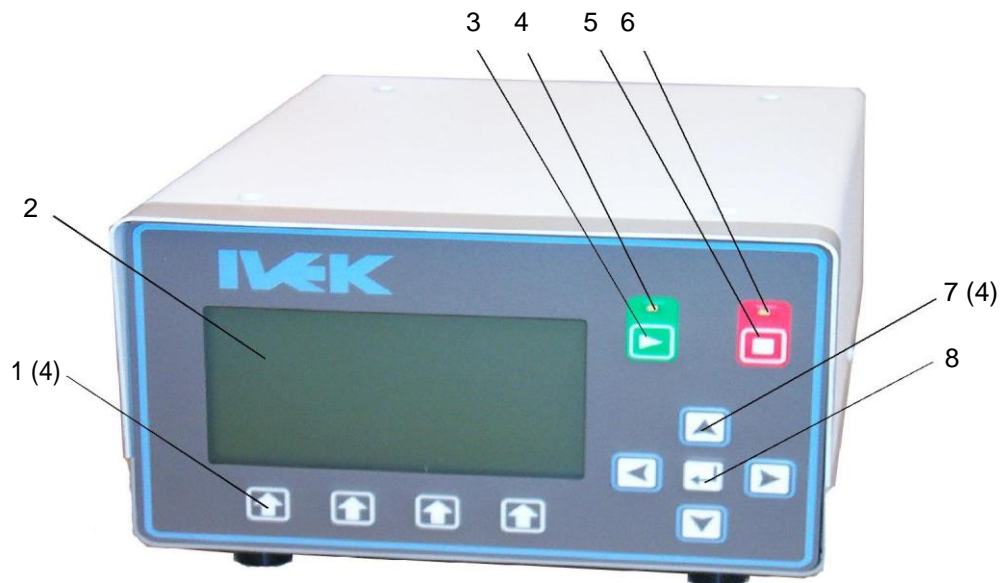

Figure 3.1 Digispense 3020 Controller Module Front Panel
3.1.1 Front Panel Controls And Indicators (Figure 3.1)
3.1.1.1 Function Push-buttons (Figure 3.1 Item 1)
3.1.1.2 Display (Figure 3.1 Item 2)
3.1.1.3 Start Push-button (Figure 3.1 Item 3)
3.1.1.4 Active/Start Indicator (Figure 3.1 Item 4)
3.1.1.5 Stop Push-button (Figure 3.1 Item 5)
3.1.1.6 Idle/Stop Indicator (Figure 3.1 Item 6)
3.1.1.7 Arrow Push-buttons (Figure 3.1 Item 7)
3.1.1.8 Enter Push-button (Figure 3.1 Item 8)